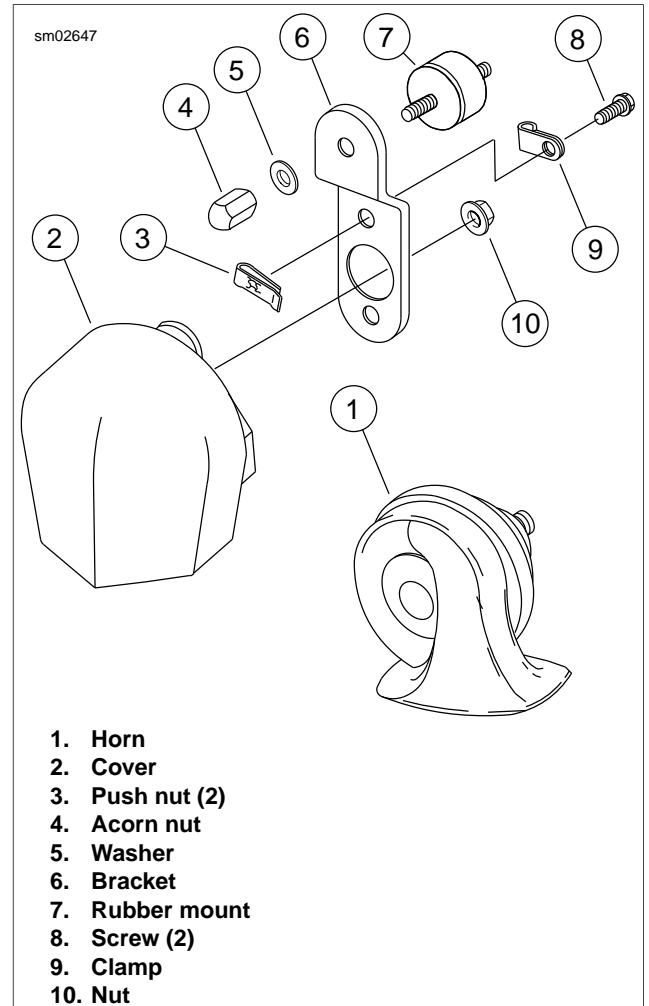
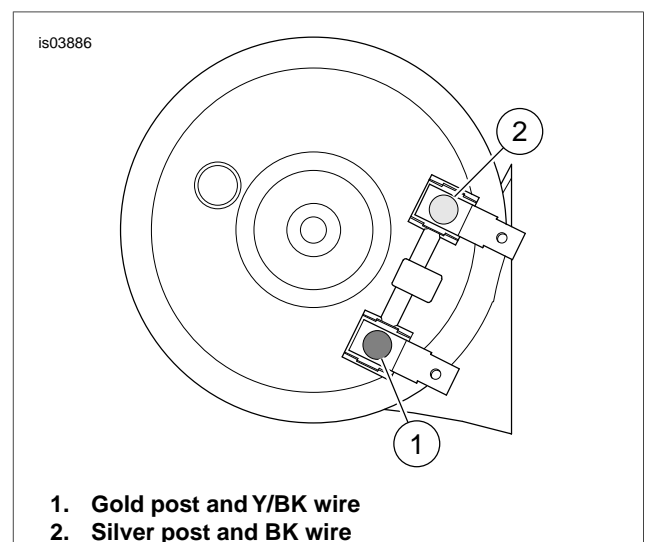

Figure 8-65. Horn
Figure 8-66. Horn Wiring
1. See Figure 8-65. Remove nut (4) and washer (5) to detach horn bracket (6) from vehicle.
2. See Figure 8-66. Disconnect wires from posts (1, 2) on back side of horn.
3. See Figure 8-65. Remove screws (8) and nut (10) to detach horn from bracket. Free wires from clamp (9).
4. Install **new** horn on bracket. Secure with screws (8), push nuts (3) and nut (10). Fold wires under clamp (9).
5. See Figure 8-66. Attach wiring.
- a. Connect Y/BK wire to gold post (1).
- b. Connect BK wire to silver post (2).
6. See Figure 8-65. Attach horn to vehicle using washer (5) and nut (4). Tighten nut to 10-15 ft-lbs (13.6-20.3 Nm). When tightening fasteners, be sure the horn does not contact the horn cover or other parts.